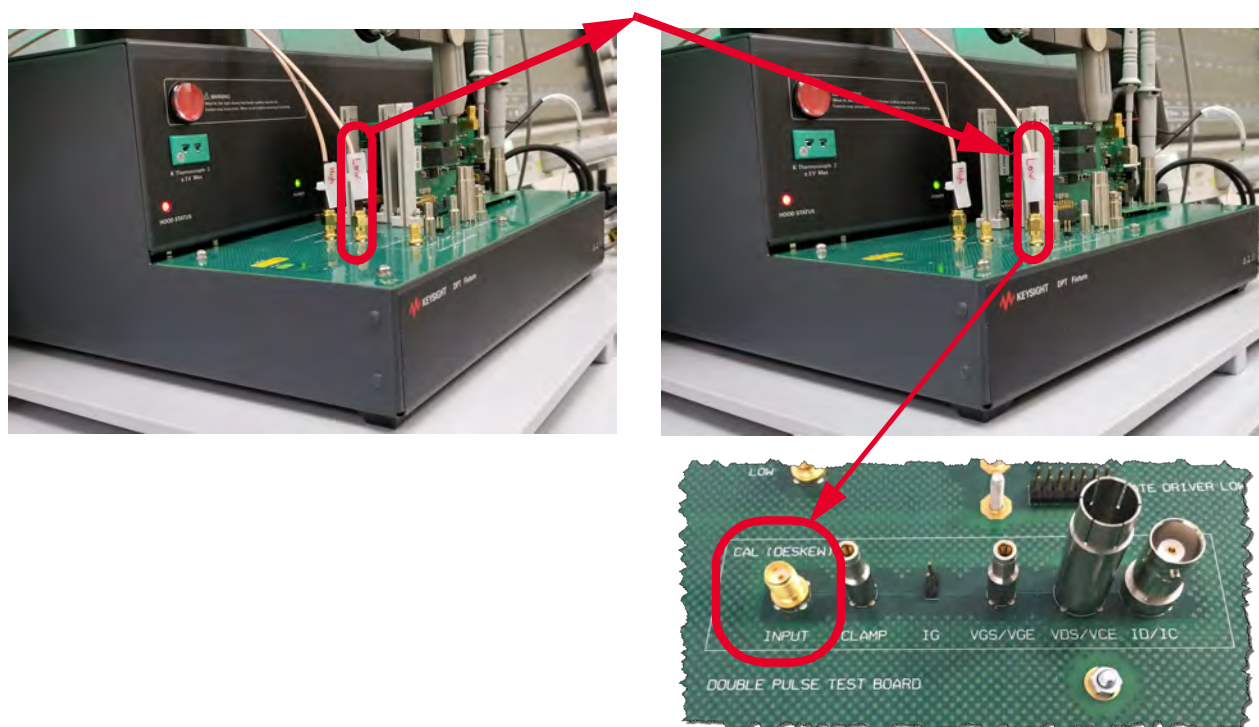

Figure 26 33512B Function Generator Connected to Deskew Fixture
- 1 Locate the Deskew oscilloscope probe connectors on the main Test Fixture. See Figure 26 below.